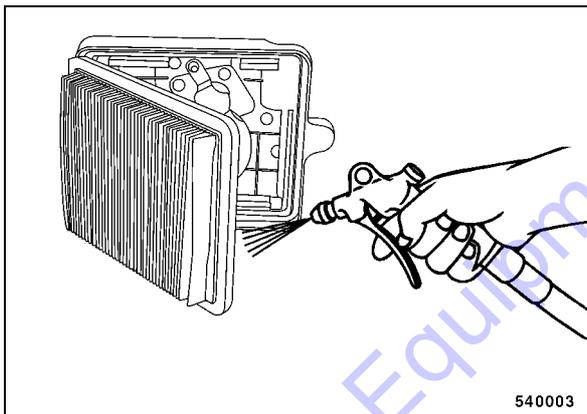

Fig. 64
- If soiled with dry fine dust blow the dry air filter out from the clean air side (Fig. 64).